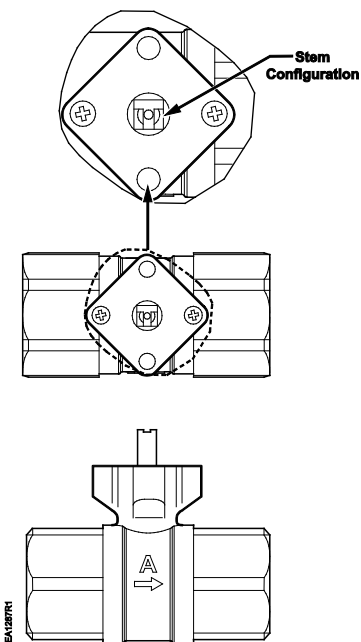
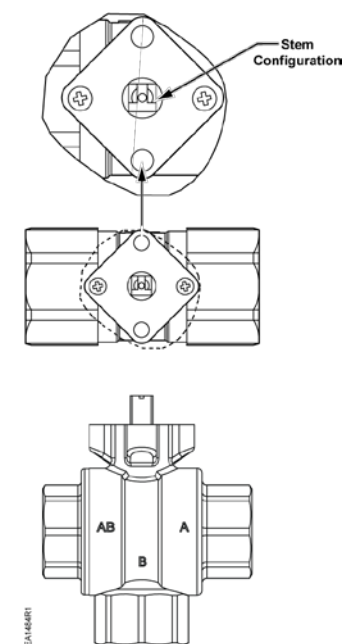

Figure 1. Two-way Configuration.
Figure 2. Three-way Configuration.
Make sure the ball valve is in the fully open position with the valve stem in the orientation shown (See Figure 1 and Figure 2).
- b. **Installed Valves** – See Figure 1 or Figure 2 to check the stem position with respect to the flow arrow.
- Installed valves** - See Figure 1 or Figure 2 to check the stem position with respect to the flow arrow imprinted on the valve.